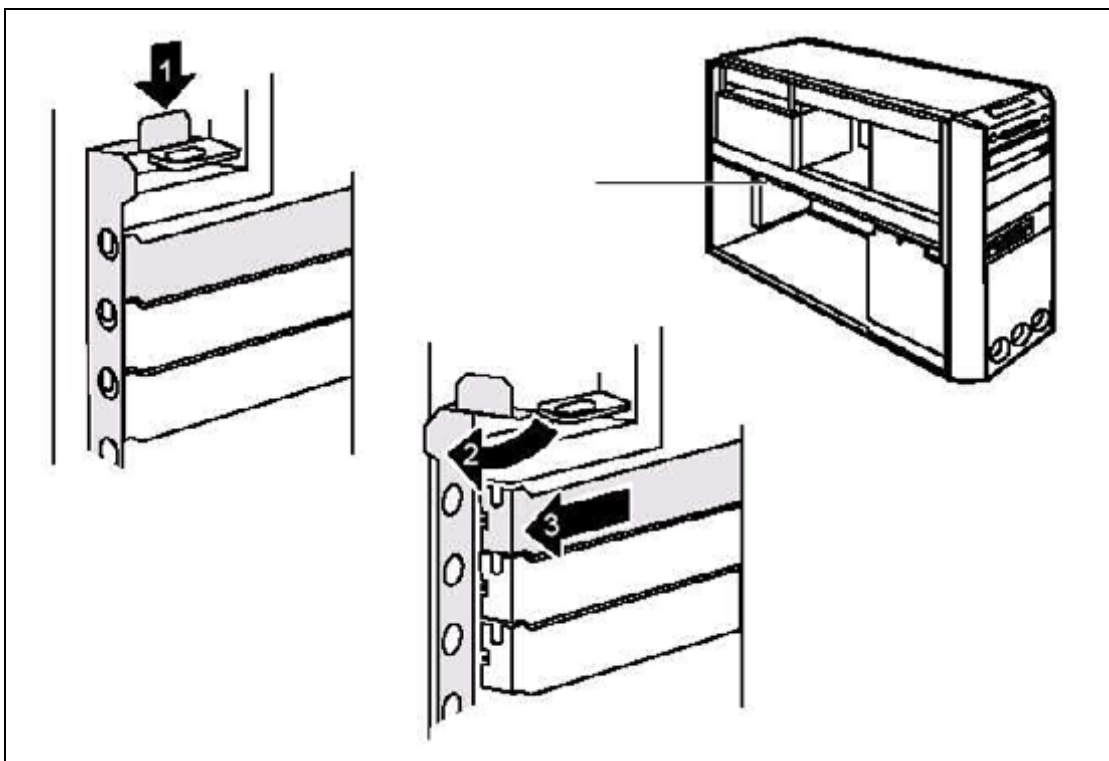

Fig. 49: Replacing a PCI board_3
7. Press the unlocking mechanism (1/Fig. 49 / p. 80) downward and open the locking rail (2/Fig. 49 / p. 80). The word "PRESS" is embossed on the unlocking mechanism.
10. Remove the board from the slot (3/Fig. 49 / p. 80).
2. Press the unlocking mechanism (1/Fig. 49 / p. 80) downward and open the locking rail (2/Fig. 49 / p. 80). The word "PRESS" is embossed on the unlocking mechanism. .